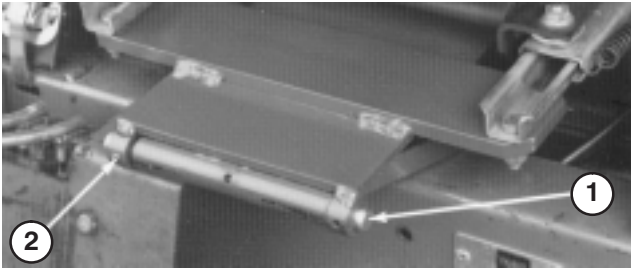

Figure 6
3. Mount seat and seat support to seat pivot bracket with pivot shaft and roll pin (Fig. 6).
5. Mount seat and seat support to seat pivot bracket with pivot shaft and roll pin (Fig. 6).